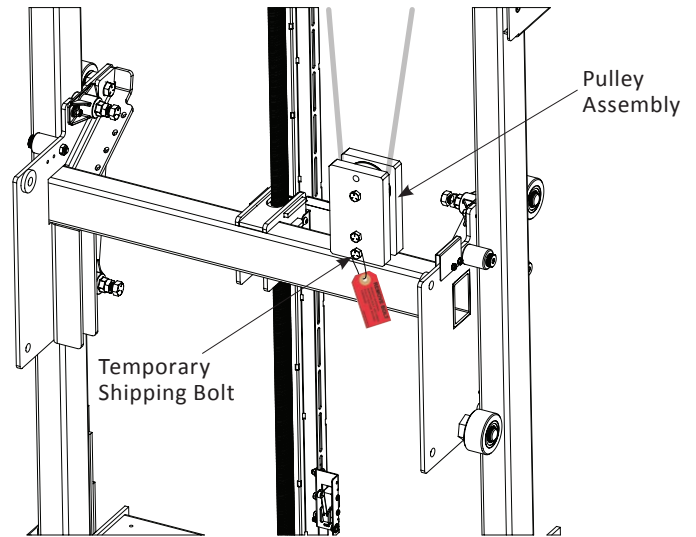

Figure 4-3
1. Remove and discard the temporary bolt and nut that secures the tensioning pulley to the carriage for shipping. This bolt is indicated with a red tag. Suspend the pulley assembly behind the carriage. *See Figure 4-3.*